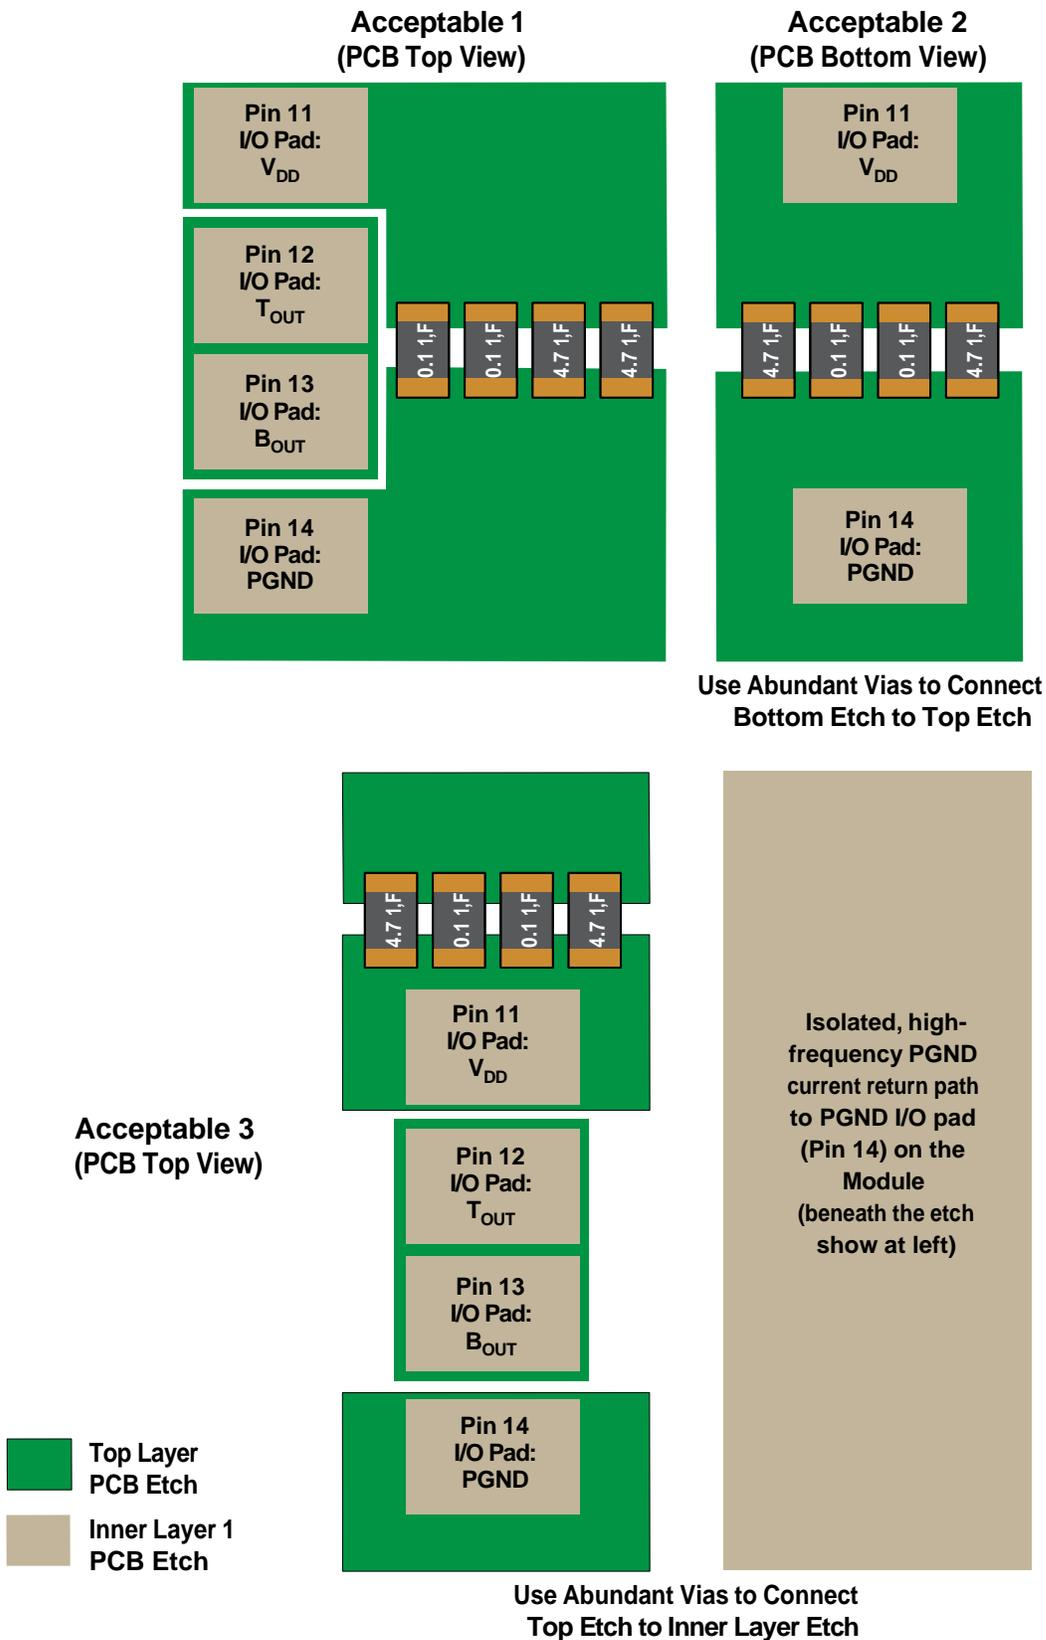

Figure 22. Recommended V_{DD} -to-PGND Power Supply Bypassing (Not to Scale)
The power supply pins and return pin of the FBS-GAM02-P-C50 require proper high frequency bypassing to one-another in order to prevent harmful switching noise-related spikes from degrading or damaging the internal circuitry in the FBS-GAM02-P-C50 module. The more critical bypassing situation is related to the V_{DD} supply to PGND (Pin 14), which bears the high rate-of-change voltages and currents associated with the internal eGaN[®] power switches interacting with a load. It is recommended that a minimum of two (2) 4.7 microfarad ceramic capacitors, one (1) 1.0 microfarad ceramic capacitor and one (1) 0.1 microfarad ceramic capacitor, all with 100 V_{DC} ratings, be connected from V_{DD} to PGND. All four of these capacitors should be low ESR types, if possible. It is strongly recommended that these capacitors inscribe the smallest possible loop area between V_{DD} and PGND so as to minimize the inductance related to this loop area. Figure 22 illustrates three instances of recommended and acceptable V_{DD} -PGND bypassing, as implemented in PCB copper etch. Regardless, different end-use implementations will require different V_{DD} bypass capacitor placements, and it is strongly recommended that the chosen bypassing scheme be evaluated in hardware for its effectiveness.